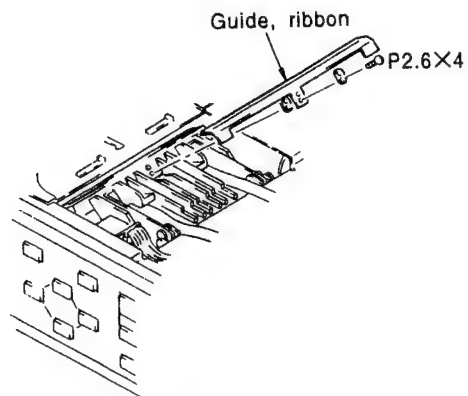

Fig. 2
3. Remove the ribbon guide from the head. (Fig. 2)